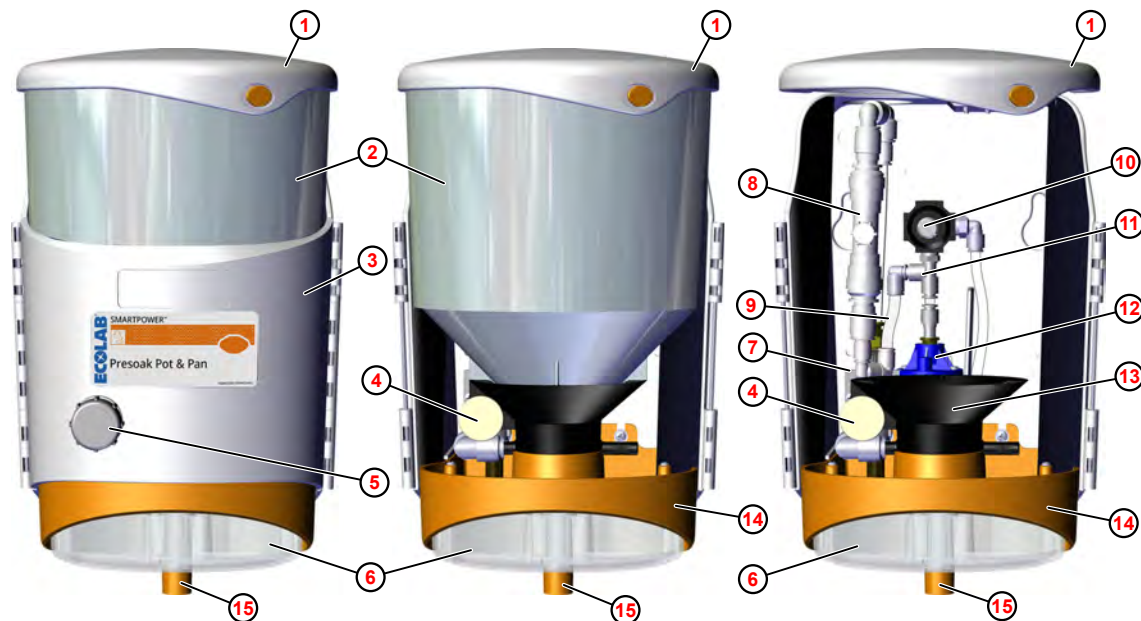

Fig. 1: Design
The SMARTPOWER™ RTU Dispenser is an automatic dispenser for Ecolab's compressed capsule products (SMARTPOWER™). It essentially consists of a base ( Fig. 1 , ⑭ ) and a product cylinder with product feed ② to accommodate the compressed detergent capsule.